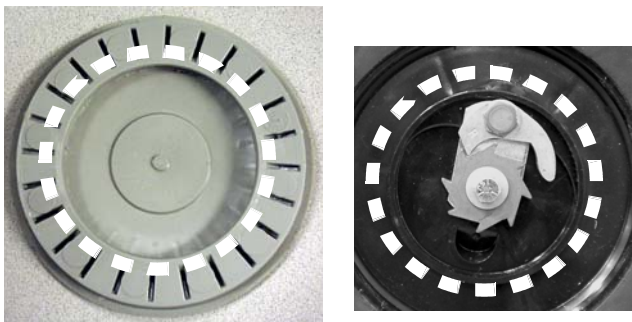

FIGURE 6
19. Clean the area around the outside of the inner rim of the wheel and hub cap as shown in Figure 6 with isopropyl alcohol to remove dirt, debris and oils. Wipe dry with a clean cloth.